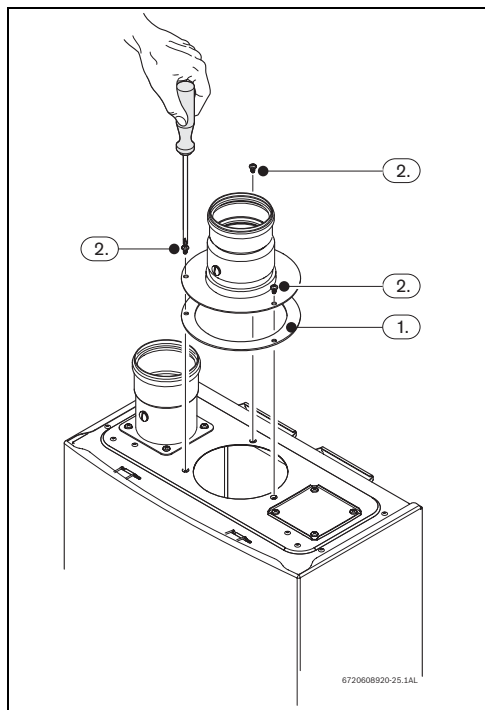

Fig. 30
- Put the gasket between the appliance and the accessory → Fig. 30 , [1].
- Tighten the 3 screws of the exhaust accessory → Fig. 30 ,[2].